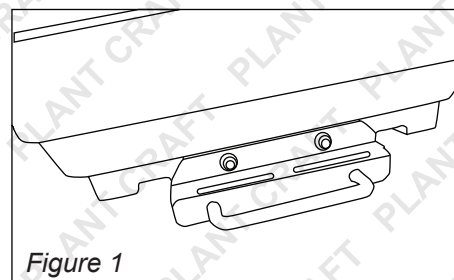

Figure 1
1. See *Figure 1*. Install the latch (2) to the tray (1) using 4 screws (12), washers (14) and nuts (15).